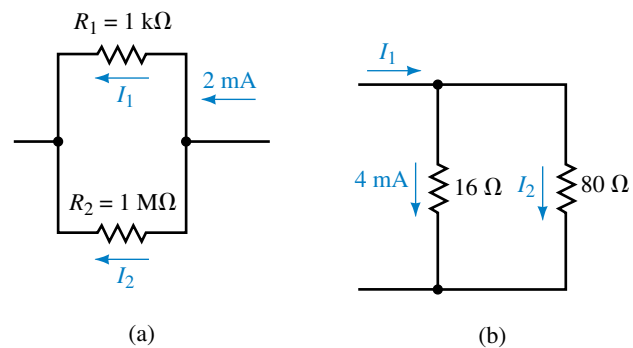

FIGURE 6-75
30. Repeat Problem 29 for the networks of Figure 6-75.